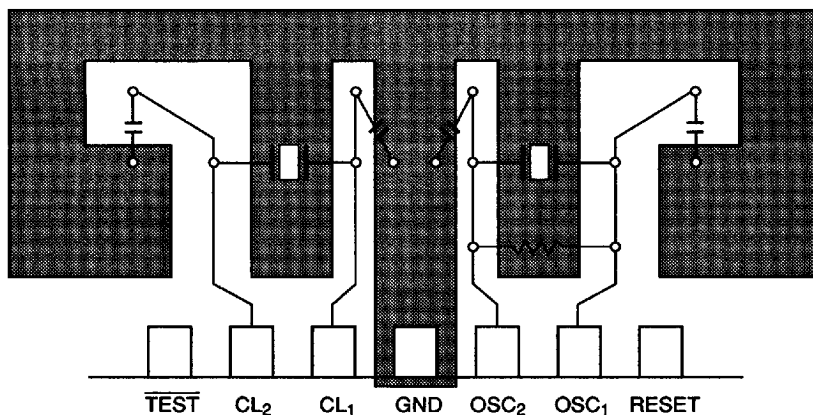

Figure 24 Typical Pattern Layout Example of Oscillation Circuit
2. Wiring between the OSC1/OSC2 pins and other elements must be as short as possible, and must not cross other wiring. Refer to the recommended layout of the oscillation circuit in figure 24.